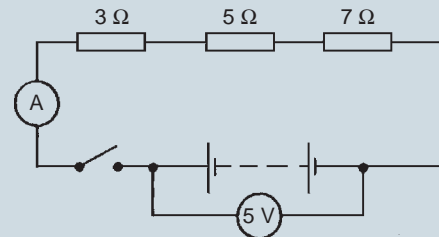

Figure 7.56
3. With the switch in Fig. 7.56 closed, the ammeter reading will indicate: (a) $1\ \text{A}$ (b) $75\ \text{A}$ (c) $\frac{1}{3}\ \text{A}$ (d) $3\ \text{A}$